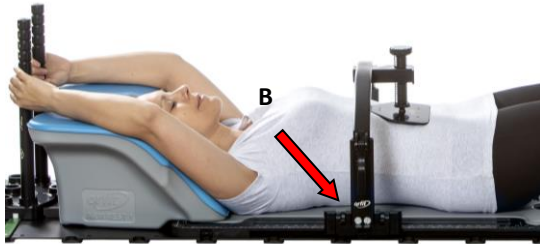

Figure 4
- Position the arch on the baseplate so the screw will touch the pressure plate once you screw it down. Attach the arch to the base plate by opening the clamps (B) on both sides. The arch indexes onto the round holes on top of the base plate and clamps underneath the thin edge. For repositioning purposes write down the location of the arch. The different locations are numbered on the base plate E1 to E34. (Figure 4)